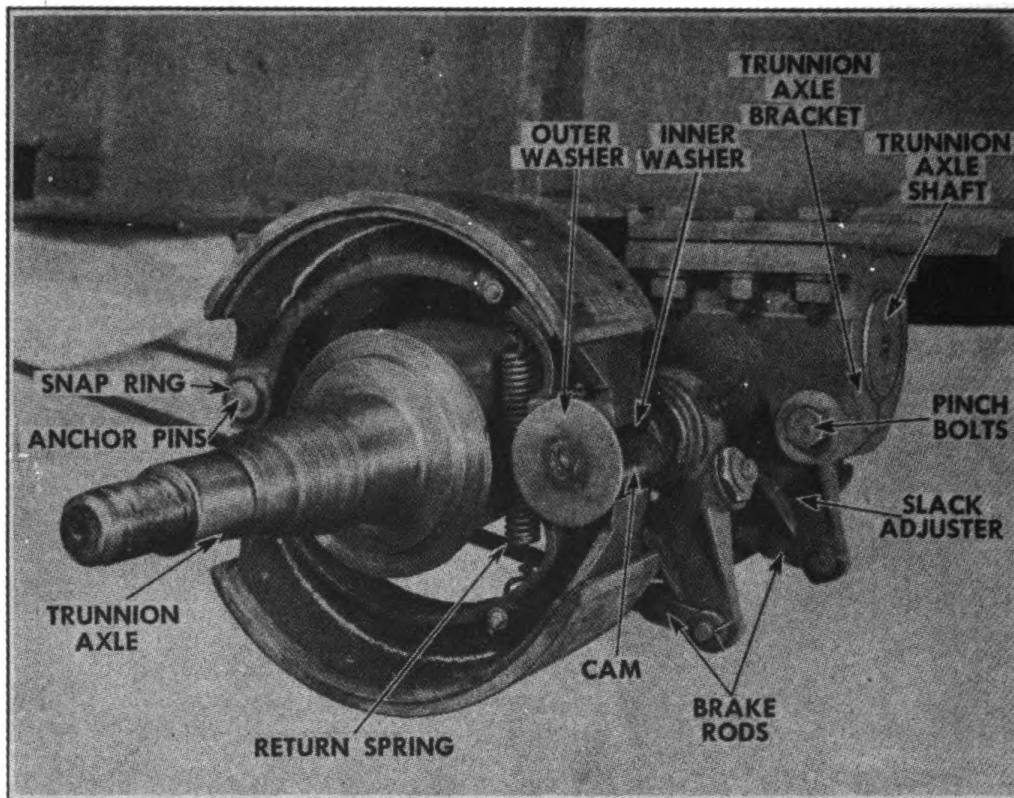
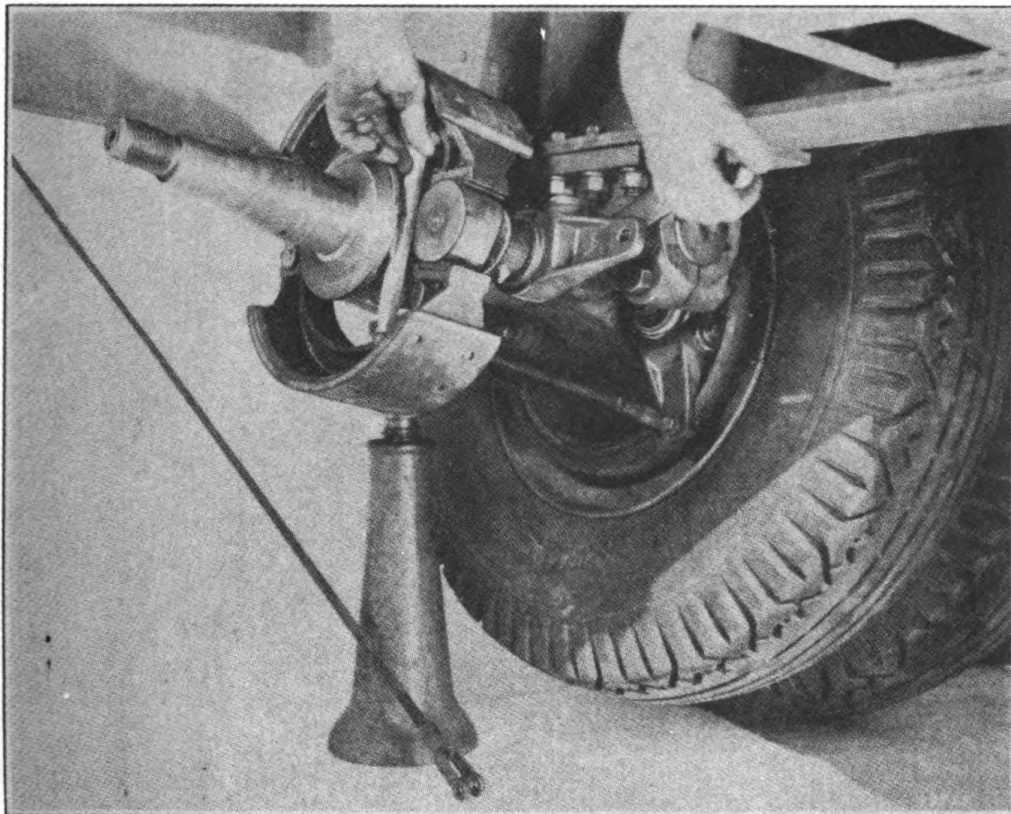

FIGURE 11. REAR UNDERCONSTRUCTION
FIGURE 17. REMOVING CAM—REAR—STEP 1
(1) Disconnect the two brake rods at the slack adjuster (Fig. 11).
(2) Raise the cam end of the top shoe and rest it on outer cam washer. (Fig. 11.)
(3) Tap the anchor pin end of shoe off anchor pin.
(4) Now pull the lower shoe off anchor pin.
(5) Remove the two bolts holding return spring to brake shoes.
7. CAMS, REAR.—*a.* Removal. (Figs. 17 and 18.)—(1) Remove the brake rod from slack adjuster.
- (3) Place an 8½" piece of wood between the two spring return bolts. Now lower cam. (Fig. 17.)
- (4) Remove the nut holding slack adjuster to cam shaft.
- (5) Remove the lockwasher and flat washer from cam shaft.